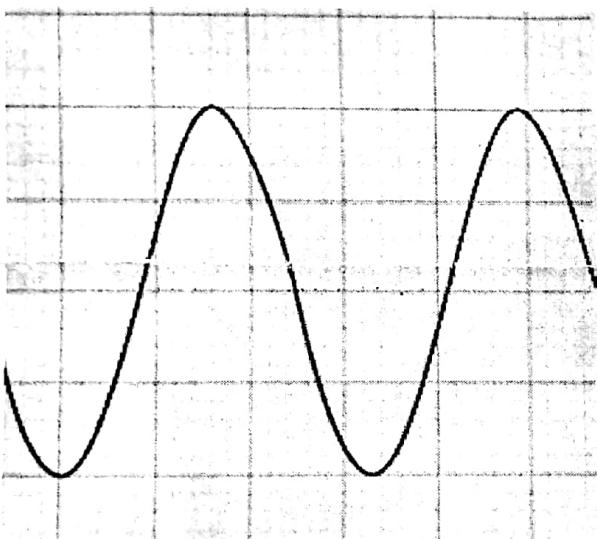

FIG 2. Snapshot of CRO Screen
2. An ac voltage waveform as seen on the CRO screen is shown in Fig. 2. The time-base is set to 2ms/div and the voltage-scale is set to 1V/div. Calculate the time-period, the frequency, the peak-to-peak value, the peak value, the RMS value (also known as effective value), and the average value (also known as DC value) of the waveform. Also write the mathematical equation describing the time-dependence of the voltage.